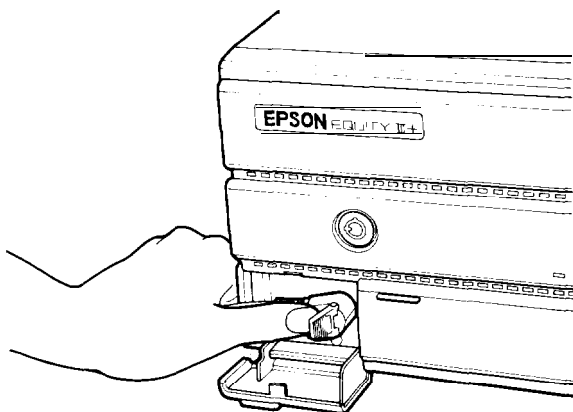

Figure 1-8. *Plugging the keyboard cable into the main unit*
3. Plug the other end of the cable into the keyboard socket, as shown in Figure 1-8. Do not force the connector, but be sure to insert it all the way.